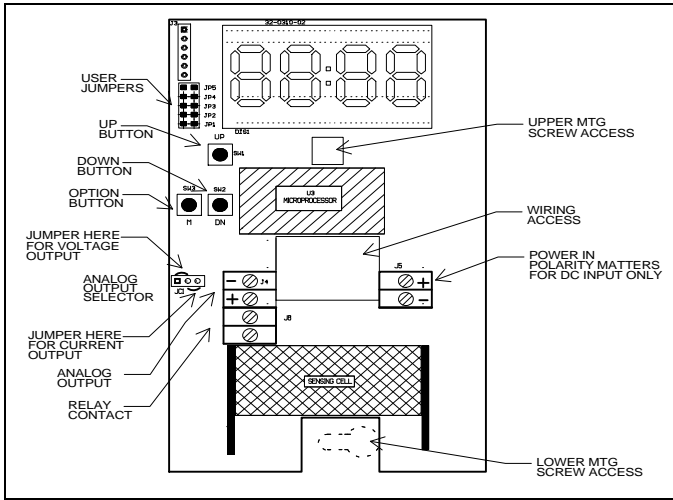

Figure 2: *Model 310 Component Locations*
The locations of controls and terminals on the main circuit board are shown in the Figure 2 on page 4.
The Model 310 will operate from an AC or DC input voltage between the values called out in the specifications on page 2. The power supply leads are connected to the two-terminal power connector shown in Figure 2.
When operating from DC power, the polarity of the power leads must be as shown in Figure 2. Reversed polarity connection will not damage the unit, but will make it inoperable until the connection is reversed.
The Model 310 provides either a 0 - 10 volt or a 4 - 20 mA current loop output at the two terminals of the analog output connector shown in Figure 2.
The type of analog output is determined by the setting of the analog output selector shown in Figure 2.
Note whether the shorting block at jumper JP5 is covering both pins or only a single pin, then borrow the shorting block and slide it over the two pins of jumper JP4 (see Figure 2). The display (if present) will show 'SEL'
1. **Note whether the shorting block at jumper JP5 is covering both pins or only a single pin**, then borrow the shorting block and slide it over the two pins of jumper JP4 (see Figure 2 on page 4). The display (if present) will show 'SEL'.
4. **Note whether the shorting block at jumper JP5 is covering both pins or only a single pin**, then borrow the shorting block and slide it over the two pins of jumper JP2 (see Figure 2 on page 4). Use the 'UP' and 'DOWN' buttons to change the concentration to the value just calculated.
2. If there is no display on the unit being calibrated, connect a current or volt meter to the analog output terminals. Check the setting of the analog output selector (see Figure 2 on page 4) to determine whether the unit is set for voltage or current output.
3. **Note whether the shorting block at jumper JP5 is covering both pins or only a single pin**, then borrow the shorting block and slide it over both pins of jumper JP2 (see Figure 2 on page 4).
5. If the reading differs by more than ± 75 ppm from the known concentration of the calibration gas, use the 'UP' and 'DOWN' buttons (see Figure 2 on page 4) to adjust the reading.
The setpoint value is adjusted by closing jumper JP3 (see Figure 2 on page 4). If the display is present when JP3 is closed it will show the current high limit setpoint in ppm CO₂.